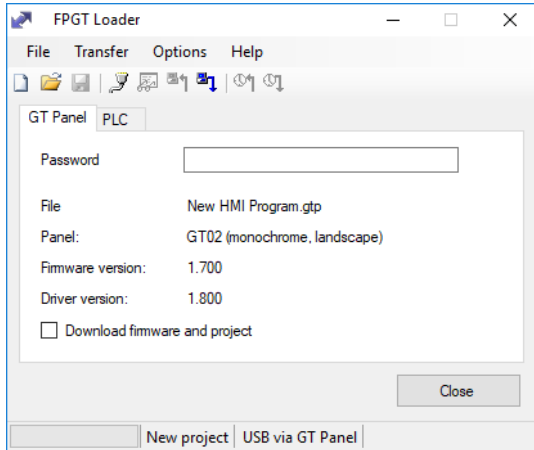

Figure 8
- 15) Double check that the correct file is shown and click the  download icon. (Figure 8)